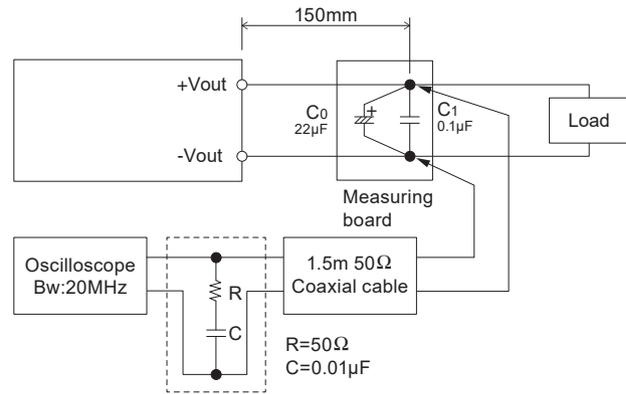

Fig.1.1 Measuring method of Ripple Noise
- The specified ripple noise are measured by the method introduced in Fig.1.1.